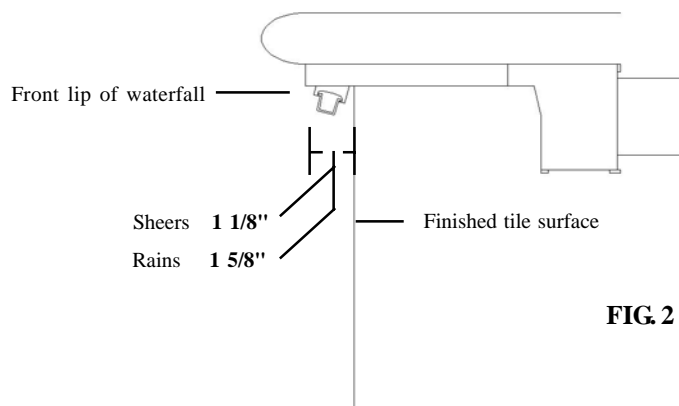

FIG. 2
- Strip back all fiber casings no less than 4 inches (Fig. 2). Take care not to nick the fibers.
The Fiberstars Waterfall Light Bar can be installed before or after the fall is installed. **Note:** Installation of light bar on radius falls before the fall is installed is recommended. Make sure the bevel on the light bar track is angling away from the pool wall, toward the back of the water (see Fig. 2). Simply attach the light bar to the fall using clear PVC cement. Be careful not to obstruct the water flow with the light bar track or PVC cement. Pull fiber through the conduit at the waterfall back to the illuminator location.